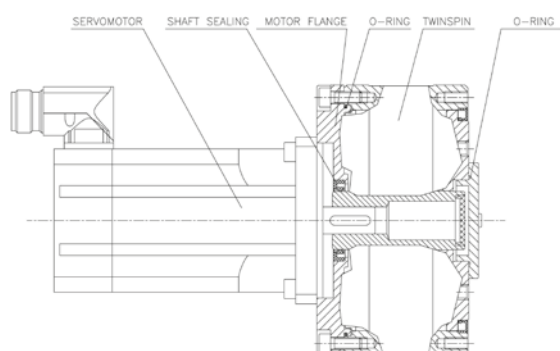

Fig. 5.1.1a
Fig. 5.1.1a shows direct method of the connection between a motor shaft and the reduction gear shaft, where the torque from the engine is transmitted through a keyway. The advantage of this connection is a short design length of the drive. This method of connection can be used, if the motor shaft has a keyway and its diameter is identical with the diameter of the hole in the shaft of the reduction gear.
Fig. 5.1.1a shows the most common method of connection by using a flange with a shaft seal.
- Beschreibung von T Baureihe Abb. 5.1.1a,b,c,d:
Die Abbildung 5.1.1a zeigt die häufigste Art der Verknüpfung des Flansches mit der Welledichtung.